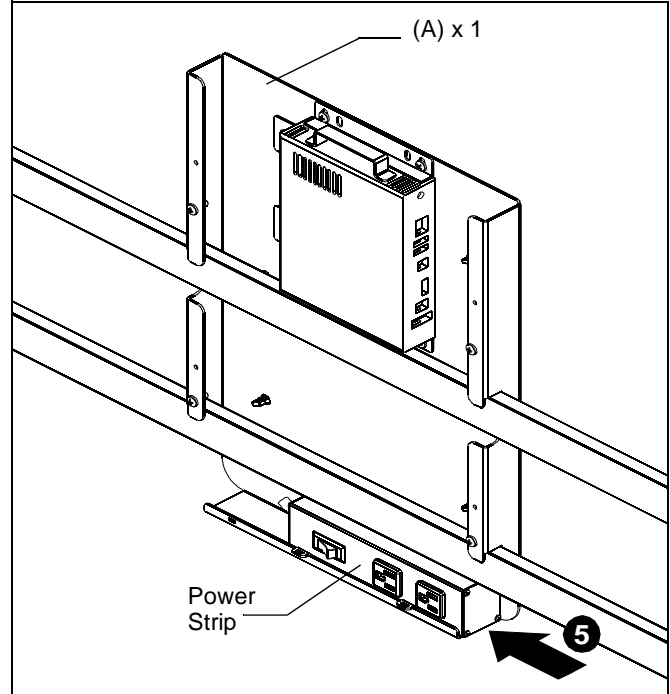

Figure 3
5. Orient power strip as shown below with outlets facing outward and slide power strip into place. (See Figure 3)